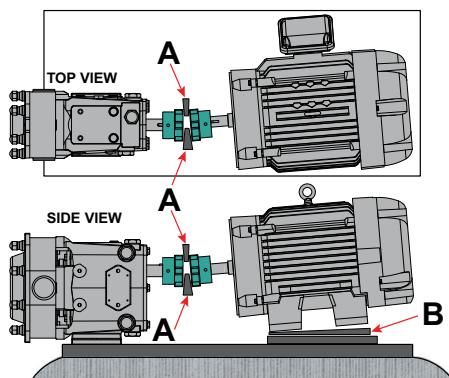

Figure 23 - Check Angular Alignment
1. Using feeler gauges or taper gauges (Figure 23, items A and B), check the alignment at four points every 90 degrees around the coupling; **adjust to equal dimension at all points**.